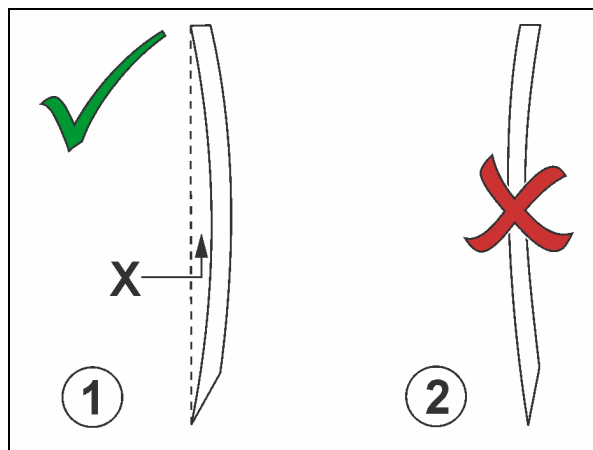

Fig. 143
3. Bring the cutting knife back to a slightly concave shape by means of hammer strokes (Fig. 143/1)